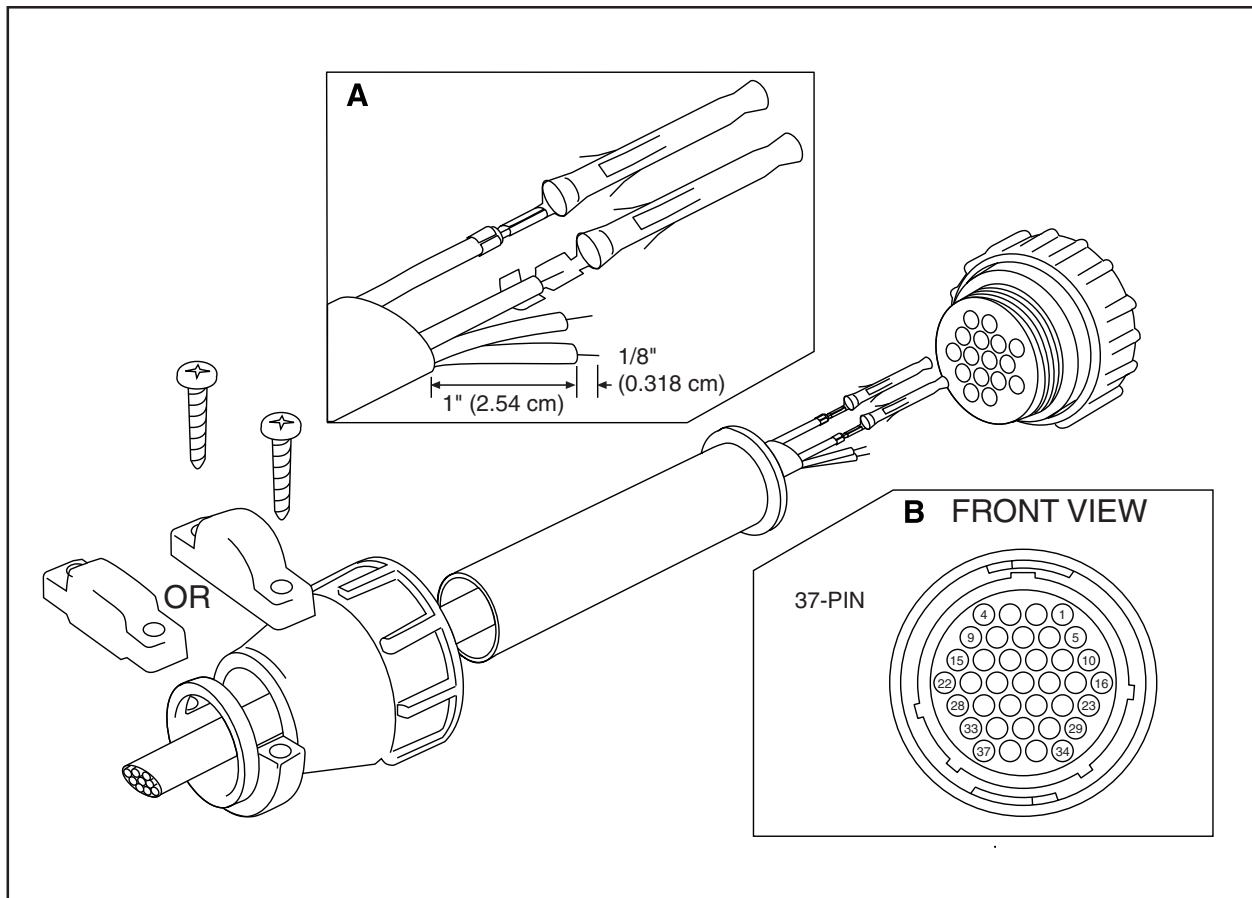

Figure 6. Connector Assembly
2. Assemble the connector parts according to the following instructions. Detail B, in Figure 6, reflects the pin arrangement specific to the WX8000 Series receiver/drivers. Refer to Figures 6 and 7 during assembly. For best results, use an AMP style crimper when making the wire-to-pin connection.
- c. Using an AMP style crimper, crimp the wires and their insulation to the connector pins. Refer to Detail A in Figure 6.